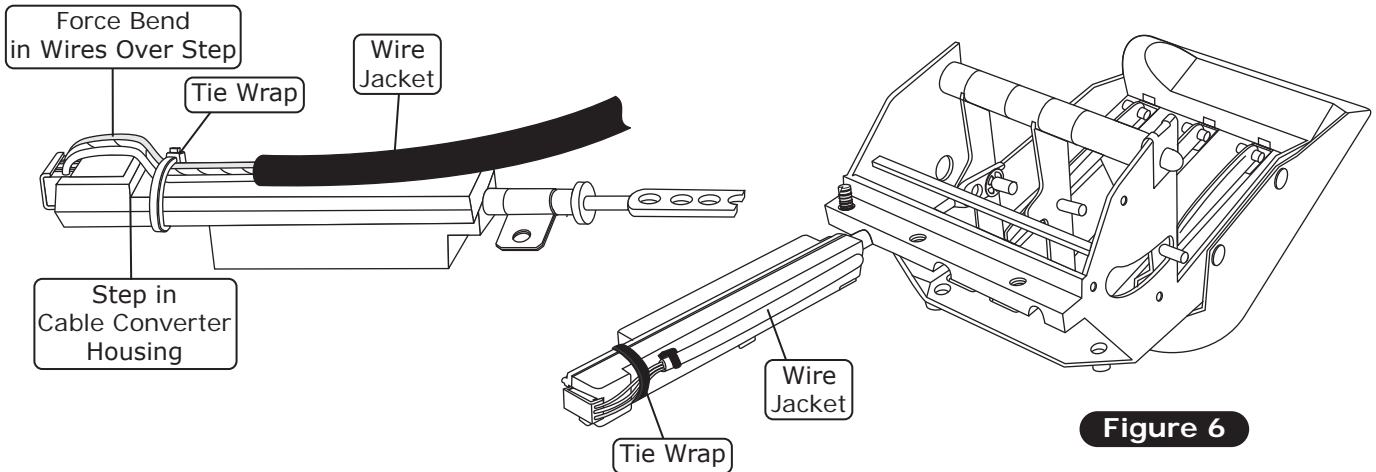

Figure 6
1. Once the connector is correctly plugged into the cable converter assembly, secure the wires to the cable converter assembly using one of the supplied tie wraps. The tie wrap must be located between the end of the wire jacket and the step in the cable converter housing, forcing a bend in each wire as it passes over the step in the cable converter housing. The head of the tie wrap must fall on the edge of the housing to remain tight. Ensure that the tie wrap is tight enough that the wires cannot move (See Figure 6, below).